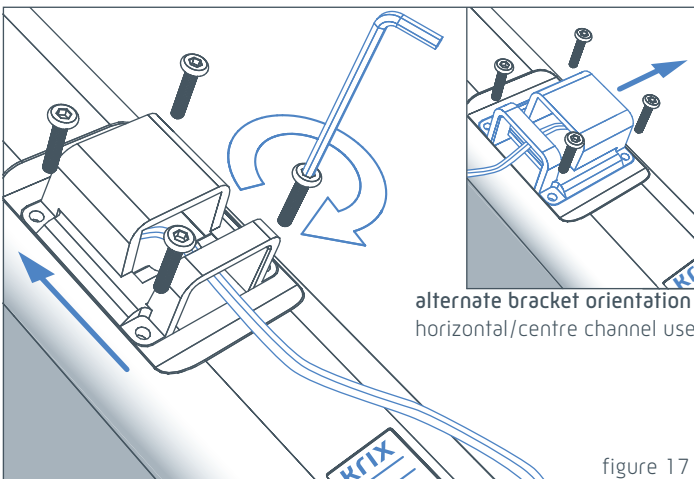

figure 17
- Attach speaker bracket to the rear of the Tryptix using allen key and four allen head bolts supplied. (figure 17)